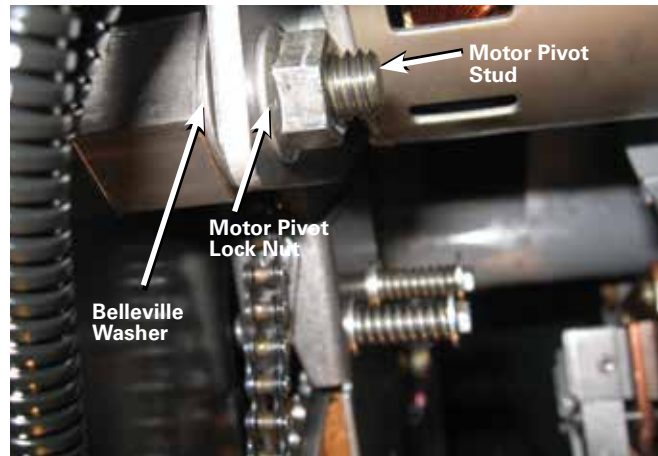
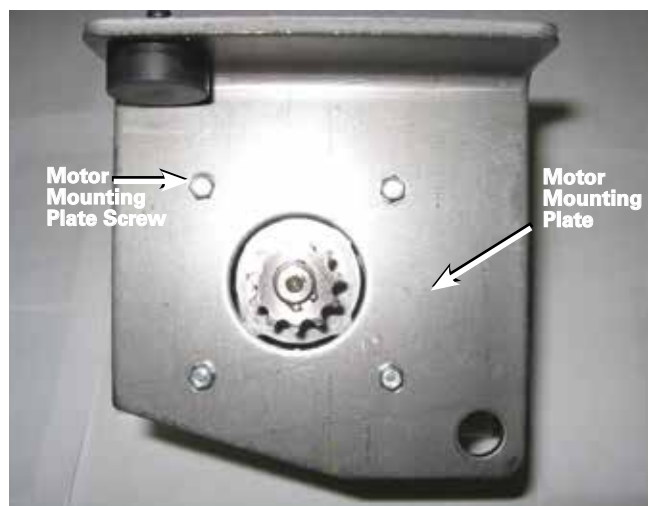
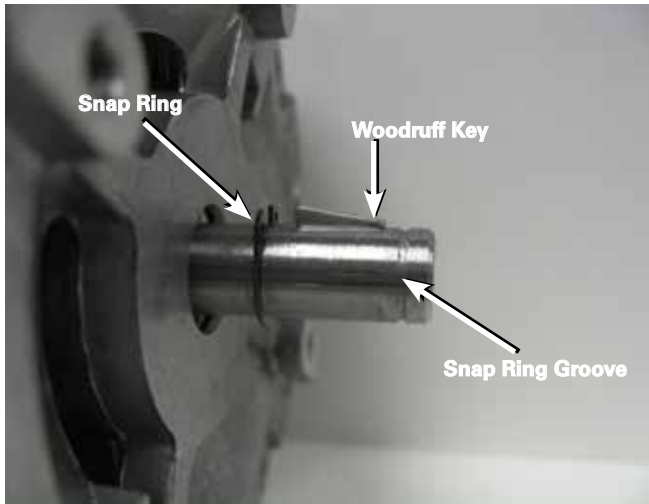

Figure 109. Motor pivot stud design.
Figure 113. Removal of the motor plate.
Figure 114. Woodruff key placement.
6. If the tap-changer has a motor pivot stud design with a lock nut as shown in Figure 109, remove the motor pivot stud lock nut with a 9/16" socket on a ratchet. Pull the motor off of the motor pivot stud; make sure the Belleville washer stays on the motor pivot stud and does not fall into the tank. Set the motor in the motor relief area of the molded back panel. Refer to Figure 113.
9. Remove the four screws securing the motor to the motor mounting plate using a 1/4" socket on a ratchet. Remove the motor mounting plate from the old motor. Refer to Figure 113.
- The new motor kit (Part # 57A636751A100A) has a 12 tooth sprocket for the QD8 tap-changer and an 11 tooth sprocket for the QD5 tap-changer. The motor shaft has two snap ring grooves and a woodruff keyway. Install a snap ring with a snap ring pliers into the inner snap ring groove behind the woodruff keyway. Using a pliers, put the woodruff key into the keyway with the woodruff key tilted down towards the end of the motor shaft. Refer to Figure 114.
Note: If you have the motor pivot stud design as shown in Figure 113, follow Step 13. If you have the motor pivot bolt design as shown in Figure 114, follow Step 14.